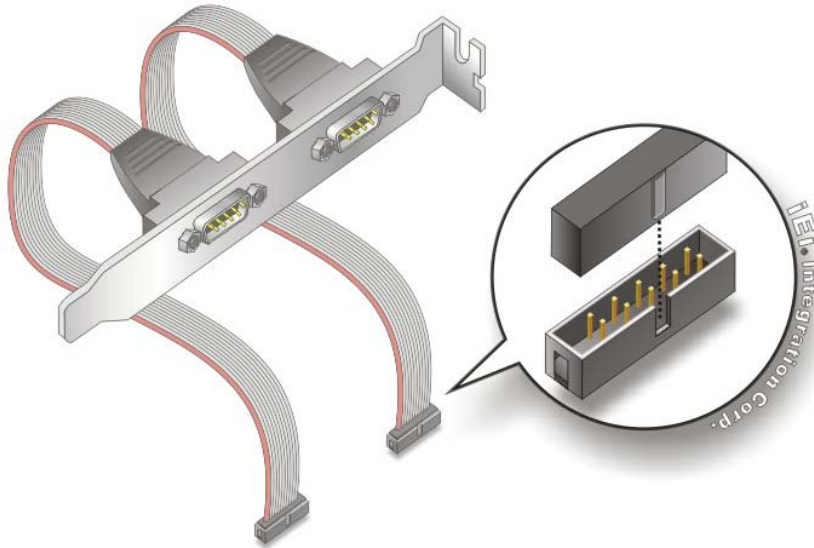

Figure 4-10: Dual RS-232 Cable Installation
Step 2: **Insert the cable connectors.** Insert one connector into each serial port box headers (**Figure 4-10**). A key on the front of the cable connectors ensures the connector can only be installed in one direction.